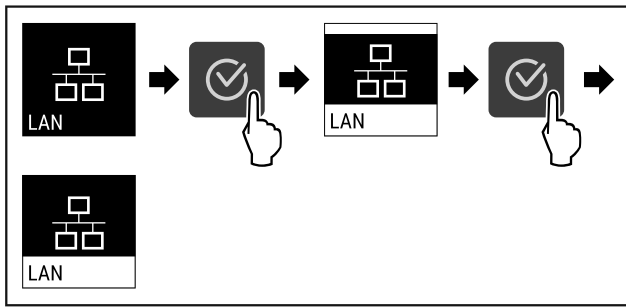

Fig. 92
- ▶ Complete the steps (see Fig. 92).